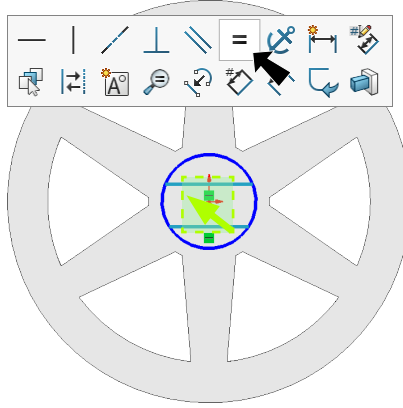

Fig. 31
Step 8. **Drag selection to left to select both lines** and click **Make Equal**  on the context toolbar, **Fig. 31**.
Step 9. Click **Smart Dimension**  (S) on the Sketch toolbar.